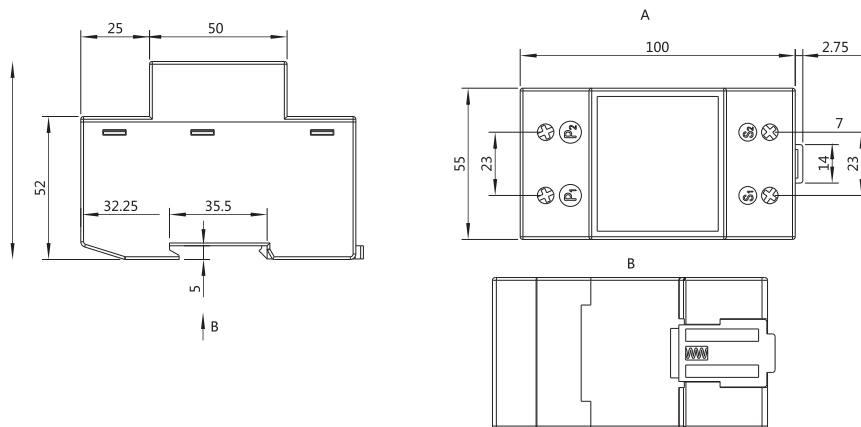

Figure 29 CTB-2 ground current transformer module
When the grounding mode is the ground current (W), the installation dimensions of the external special transformer are shown in Figure 29.